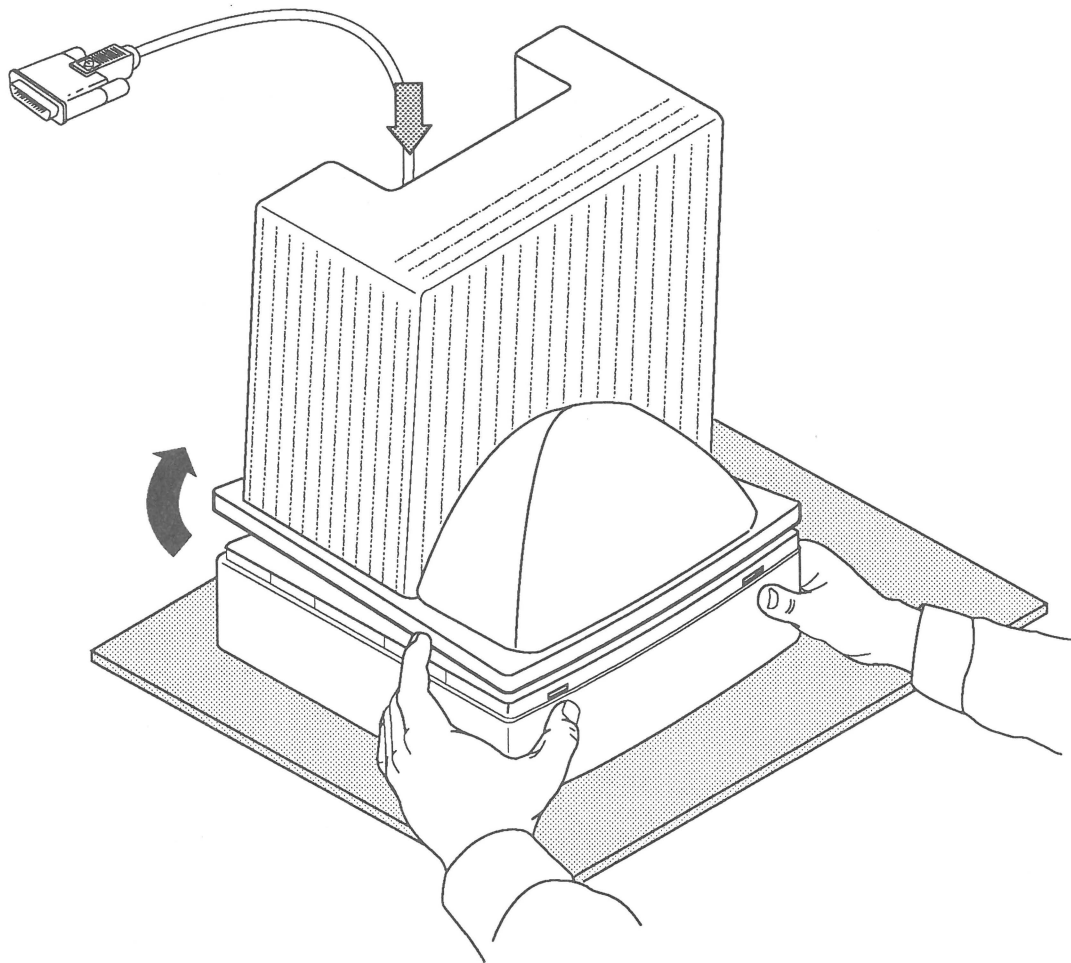

Figure 2-2 Rear Cover Removal
4. With the top of the monitor facing you, release the two retaining tabs on the top front of the rear cover by pressing on the rear edge of the bezel while applying upward pressure on the rear cover (**Figure 2-2**).
3. Slide the rear cover onto the bezel, press the top edge into place to set the two retaining tabs, and replace the two case screws (**Figure 2-2**). You may need to apply slight inward pressure on the rear cover to get it to slide into place over the screw bosses.